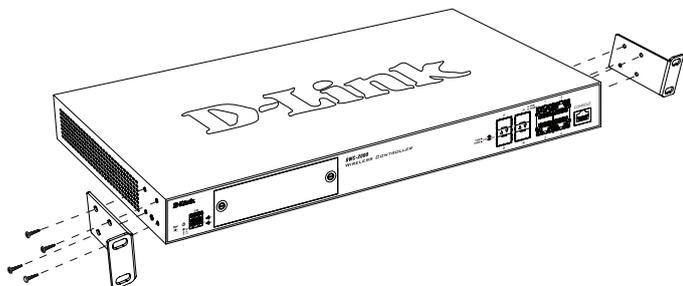

Figure 5. Mounting Brackets
1. Attach the mounting brackets to each side of the chassis as shown in **Figure 5** and secure them with the screws provided.